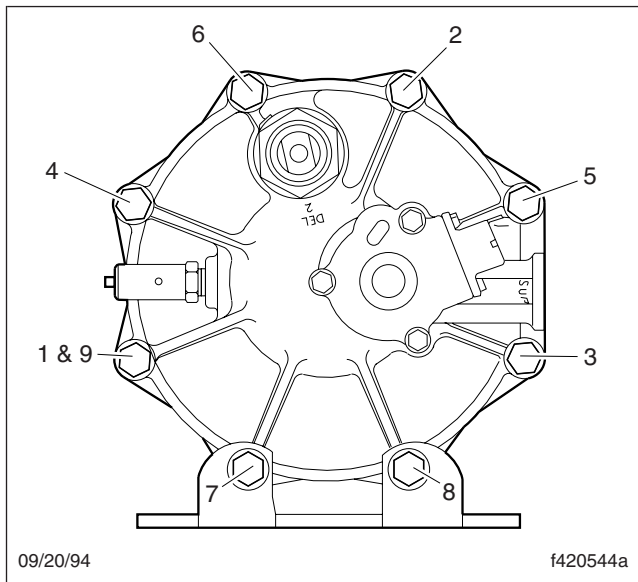

Fig. 3, End Cover to Housing Torque Pattern
16. Install the 6 capscrews, 12 washers, and 6 new Nylok nuts. Torque the capscrews in a star pattern 270 to 385 lbf·in (3050 to 4350 N·cm); see Fig. 3.